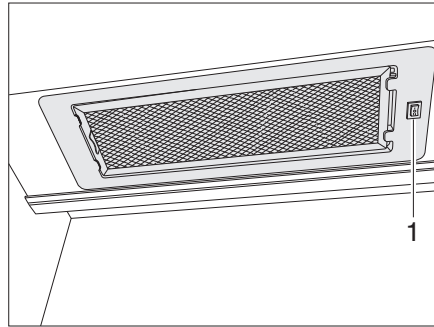

Fig. 130 Extractor hood
- Use the switch (Fig. 130,1) to turn the extractor hood on and off.